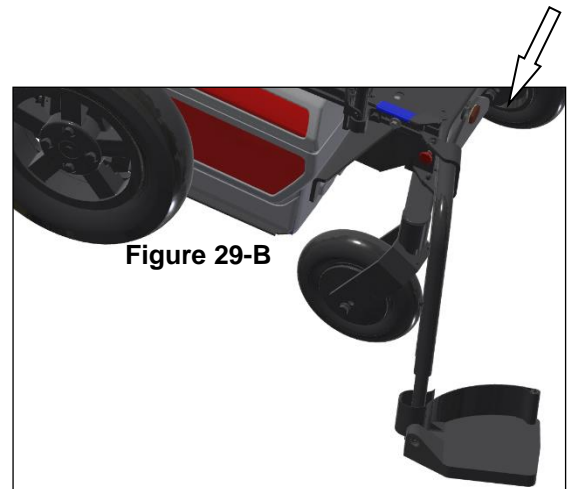

Figure 29-B
- 1- Slightly loosen the lock and press down on the plastic-covered release (Figure 29-A).